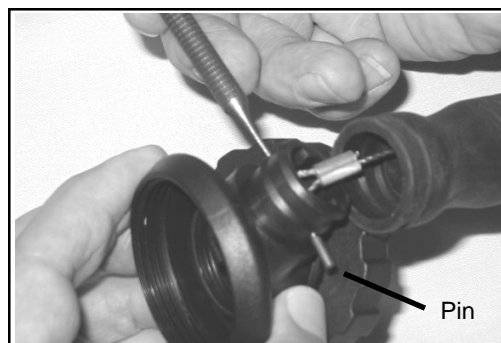

Fig. 4
9. If necessary to remove the CORRUGATED AIRWAY HOSE (8) and RAPID EXHAUST CABLE with Arm (6) from the UPPER HOUSING ASSEMBLY (4) proceed as follows:
- a. Being careful to avoid damaging the CORRUGATED AIRWAY HOSE remove the TIE WRAP (7) from around the HOSE and pull the HOSE off and away from the UPPER HOUSING ASSEMBLY.
- b. Using a 3/32" drift pin punch, press or lightly tap out the RAPID EXHAUST PIN (5) that secures the RAPID EXHAUST CABLE with Arm in the UPPER HOUSING ASSEMBLY (Fig. 4).